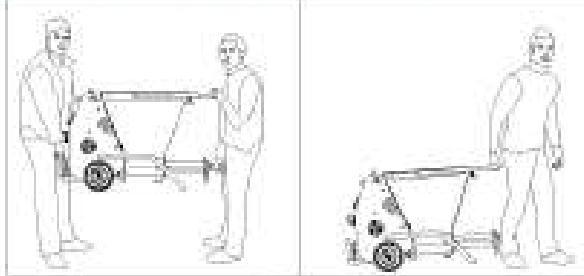

FIG.3
## 8. TRANSPORT (see fig.3)
-  - **Caution!** Never use points other than as specified in figure 3 to lift the machine.